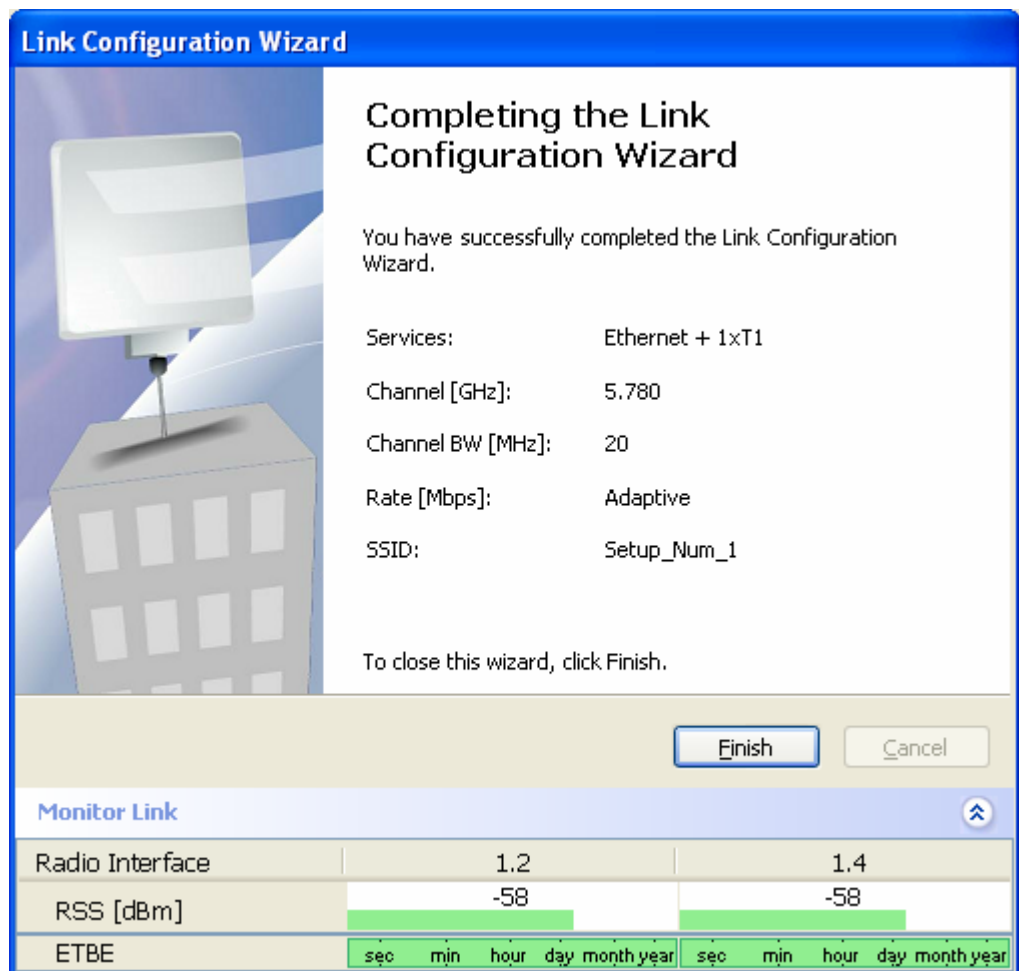

Figure 4–12. Configuration Link, Finish screen
3. Select Air Interface. (See *Figure 4–13*)